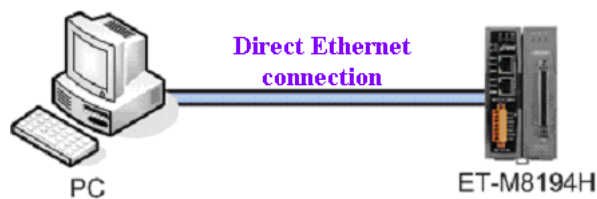

Figure 1: Direct PC to ET-M8194H connection
**Step 1: Connect the PC directly to the ET-M8194H without using a hub, switch, or router (Figure 1).**